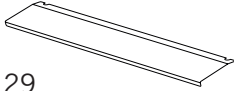

Figure 29
1. A safety panel is designed to protect control panel and the buttons when the oven is in grill mode. (Figure 29)